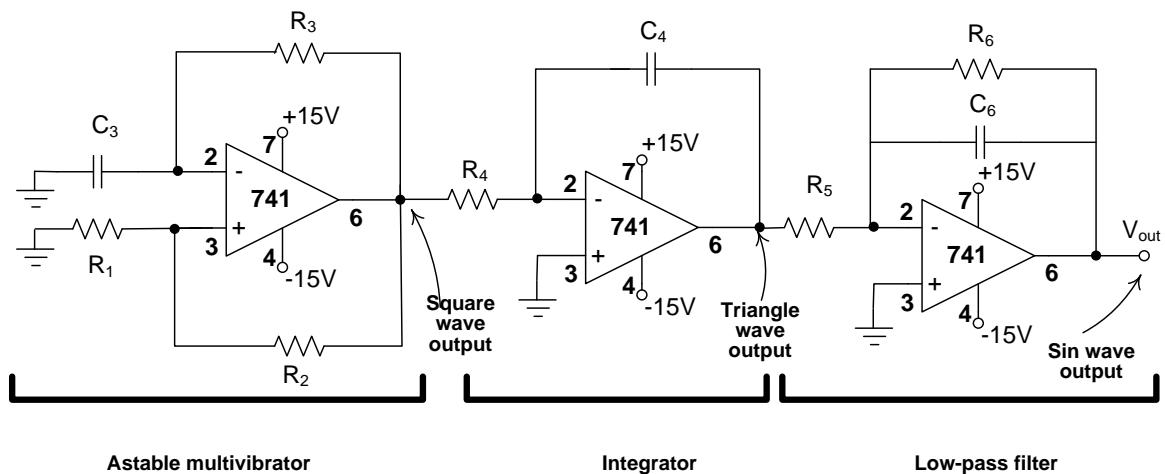

Figure 4: A simple circuit to generate triangle and sin waves from square wave.
A square wave signal can be changed to triangle wave simply by integration. Also, a simple way to produce sin wave from a triangle wave is to use a lowpass filter. As you know a triangle wave can be expressed in terms of infinite some of sinusoidal components. Filtering all components except the fundamental will result in sin wave output. A general signal generation circuit capable of producing square, triangle and sin waves is shown in Figure 4.
2. Design the integrator of Figure 4 such that when the input is square wave with frequency 2.5kHz the output voltage will have same amplitude. Use capacitor of 20nF.
3. Design the LPF of Figure 4 such that it will pass the 2.5kHz signal and attenuate its harmonics as much as possible. Use capacitor of 20nF.
2. Construct the circuit of Figure 4 and test your design. Sketch the different outputs.